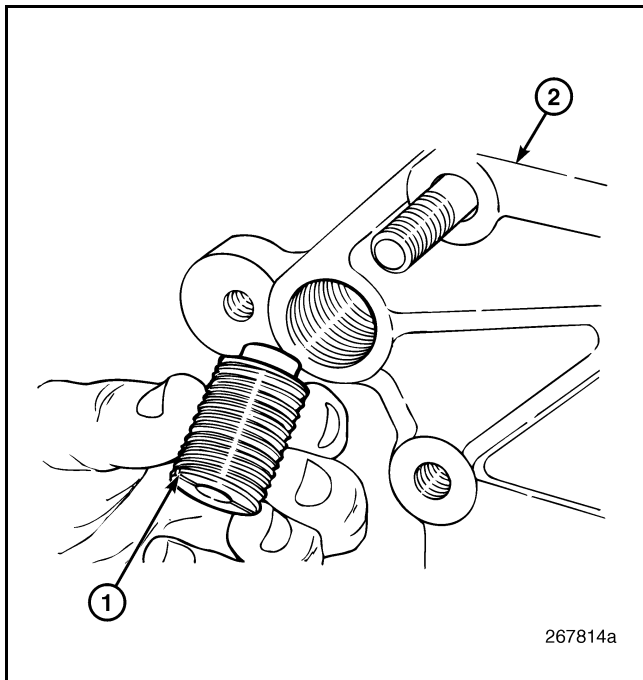

Figure 407 — Threaded Insert Installation
2. Stand the housing on edge and from the front, start the threaded inserts into the mounting bores at the top of the housing (Figure 407). Turn them in until the collar of each protrudes from the back side and the shoulder is 0.020-inch (0.5 mm) under to flush with the back side.